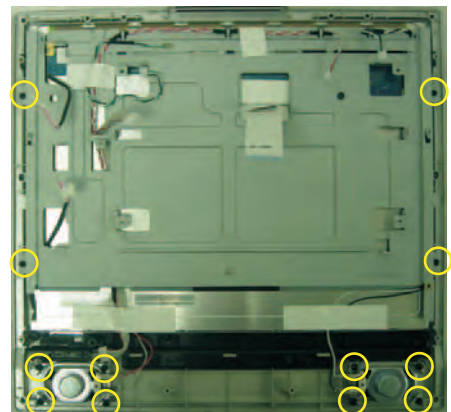
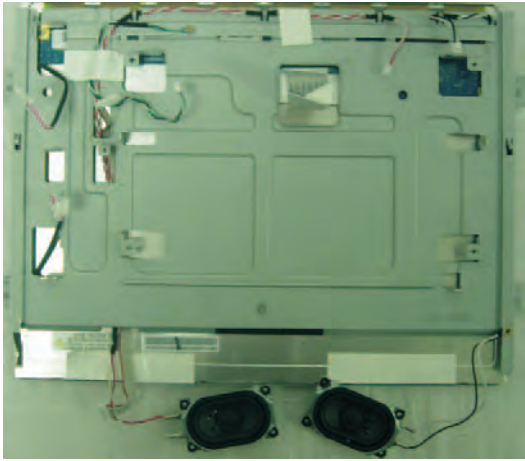

Fig.7
Fig.8
Step 4. Remove the speakers and the Bezel assy as Fig.7~Fig.8
- a. Remove the 8 screws as Fig.7.